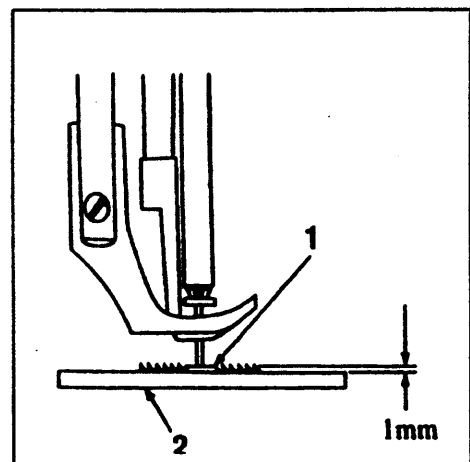

Fig.19
16. Adjustment of the height of the feed dog(Fig.19):